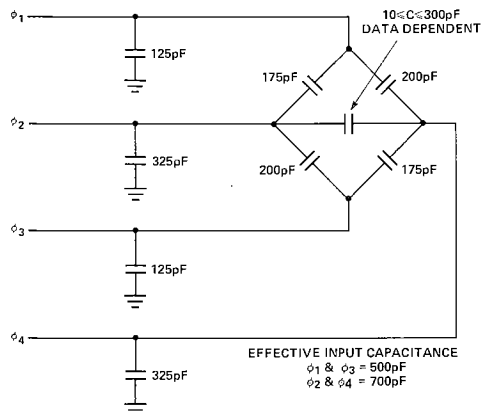

Figure 2. 2416 Equivalent Capacitance Circuit. (Maximum values shown.)
2. Output Load = four 2416 clock inputs or equivalent per Figure 2.
3. Output Load = Four 2416 clock inputs or equivalent per Figure 2.
The equivalent circuit of the 2416 clock phase inputs is shown in Figure 2. The magnitude and duration of the cross-coupling are graphically presented in Waveform B and specified in the A.C. Characteristics. Figure 3, on the next page, shows the noise margin between these specifications and the 2416 input requirements.